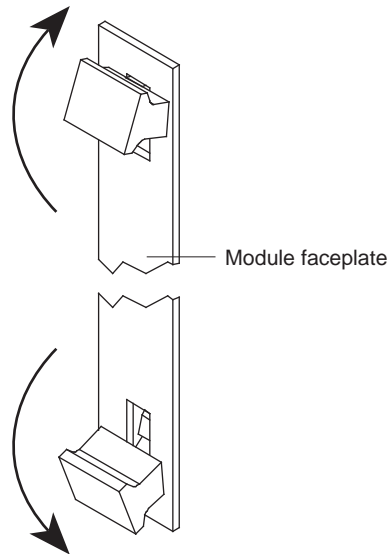

Figure 2 Handles in Outward Position
- 4 Grasp the inject/eject handles of the module and push them outward as shown in Figure 2.